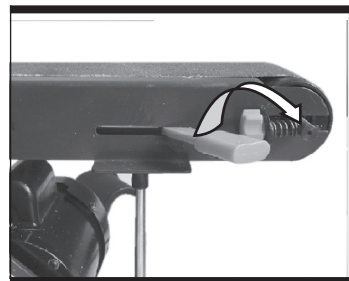

Fig 12
1. Adjusting the belt tracking (See Fig 12)